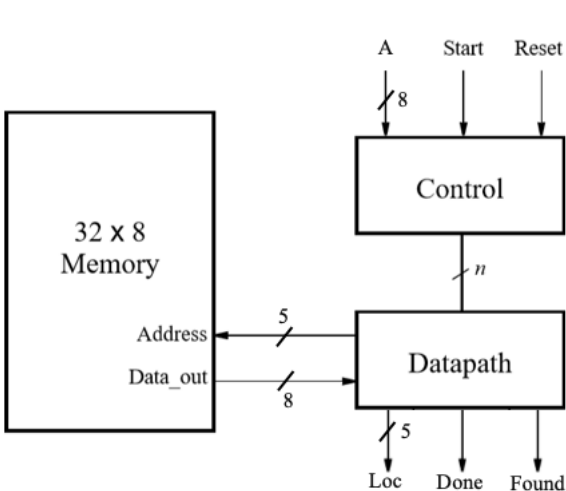

Figure 2: Incomplete block diagram for the binary search algorithm circuit.
Implement a binary search algorithm, which searches through an *unsigned* array to locate an 8-bit value *A* once the user presses Start. A block diagram for the circuit is shown in Figure 2.
- 3) Create a memory that is eight-bits wide and 32 words deep in a similar fashion to Lab 2 Task #1 and then connect it to your FSM and datapath to the memory block as indicated in Figure 2. Use the DE1-SoC board's 50 MHz clock signal as the Clock input and be sure to synchronize the Start input to the clock (*i.e.*, handle metastability).
- Notice that Figure 1 does not currently include your control signals or ASM blocks. Also notice that Figure 2 does not currently include your control or status signals.